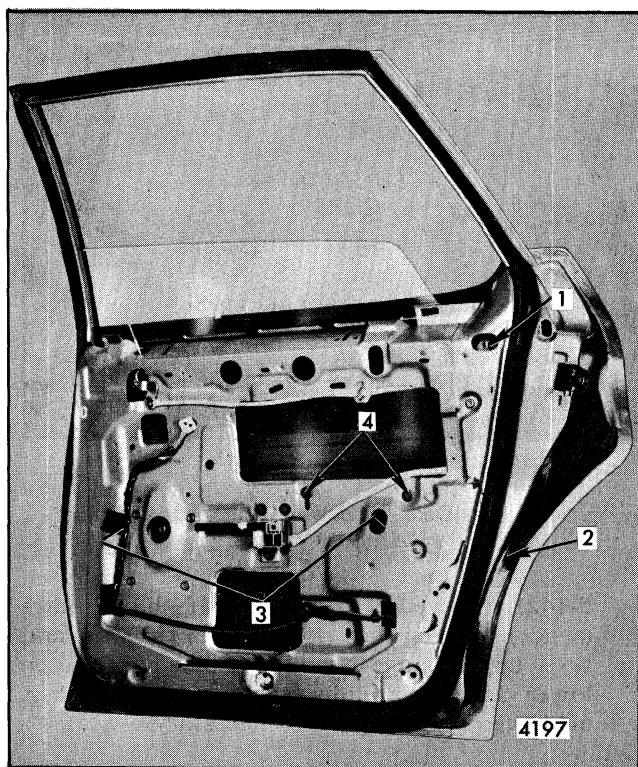

Fig. 5-145-Rear Door Window Removal and Adjustments - "B-35, 45" Styles
Adjustments have been provided to relieve a binding door glass due to misalignment of the glass run channel on "B-35,45" styles ("1" and "2" Fig. 5-145). The inner panel cam is adjustable and , can correct a rotated (cocked) rear door window ("4", Fig. 5-145 for "B-35, 45" styles and "4", Fig. 5-130 for "B-69" Styles).
2. On "B-35,45" styles, remove rear glass run channel upper and lower attaching screws ("1" and "2", Fig. 5-145) and remove run channel from door.
3. Partially lower rear door window, remove lower sash channel cam to glass attaching stud nuts ("3", Fig. 5-145). Press lower sash channel cam inboard to disengage from attaching studs and lower window regulator to full-down position.